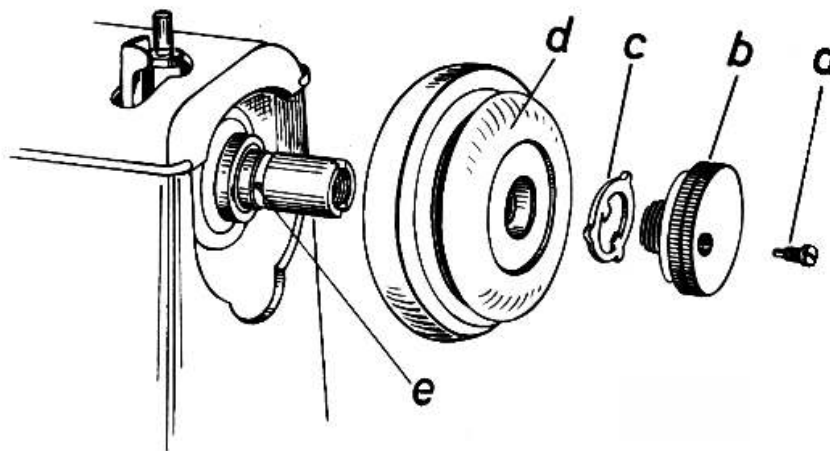

Fig. 99 Removing the balance wheel
2. on machines with pinned arm shaft bushing (Fig. 99):